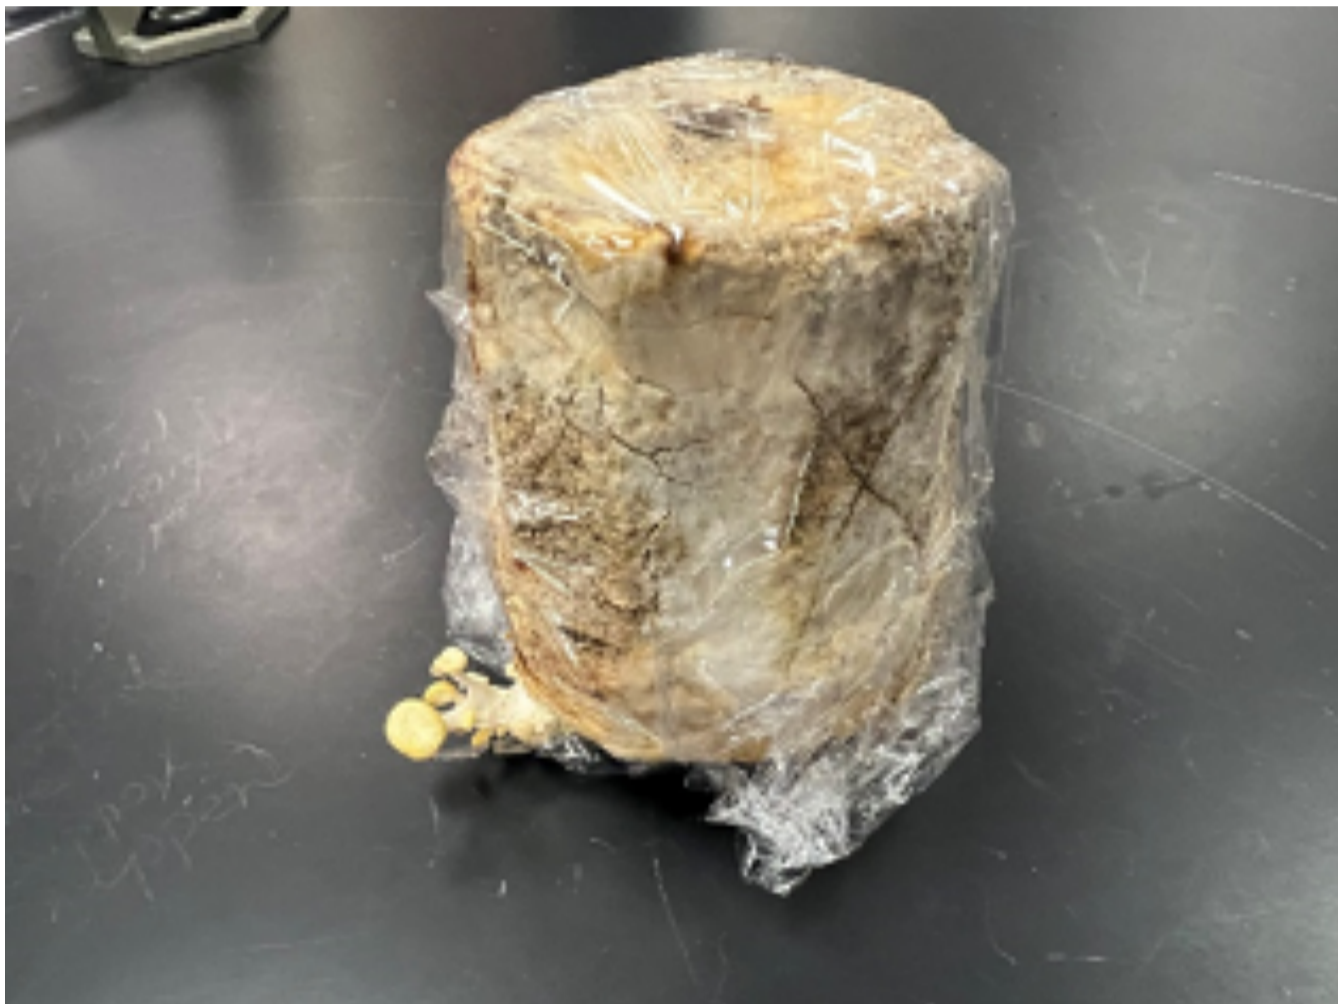

Figure 6.8 Image by Author
4. Allow the cake to sit until the mycelia has colonized the whole substrate (Figure 6.8).